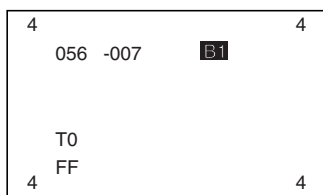

Fig. 6
- Loosen the screw on the Deflection Yoke Clamper and pull the Deflection Yoke back away from the screen. (See Fig. 6)